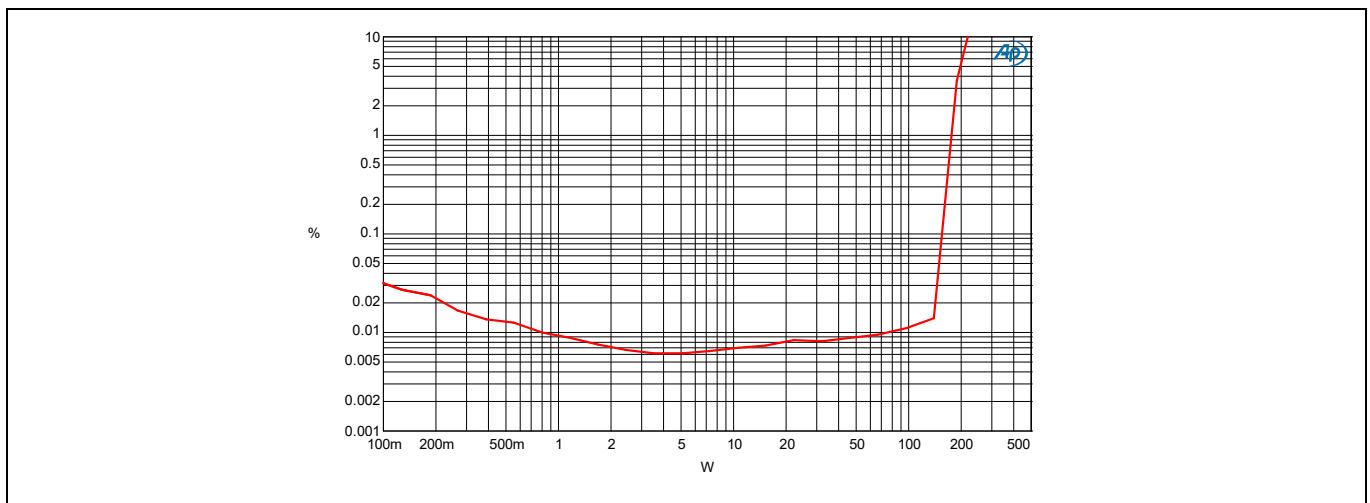

Figure 4 Power vs. THD+N  $4\ \Omega$  load
11. Run the AP test as shown in Figures 4 to 11, below.